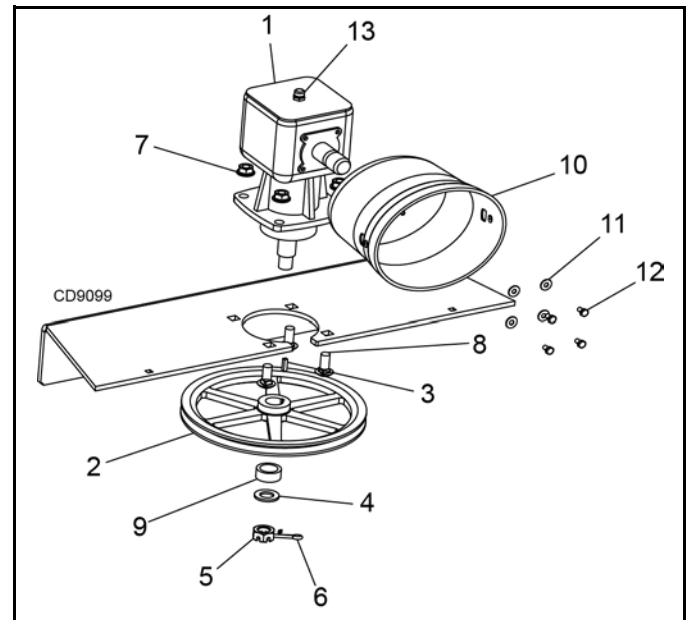

Figure 23. Gearbox Stand Assembly
Remove Gearbox from Mower (Figure 23)
2. Remove vent plug (13) and siphon gear lube from housing through this opening. See Figure 23.
3. Remove cap screws (12) and washers (11) to remove drive shield (10) from gearbox.
7. Remove flange lock nuts (7) and carriage bolts (8) from gearbox mounting. Remove gearbox from mower by lifting gearbox up and sliding toward the front of the mower.
8. Remove cotter pin (6), castle nut (5), washer (4), and sleeve (9) from gearbox output shaft.
9. Remove drive sheave (2) and key (3) from gearbox output shaft.
Install Gearbox (Figure 23)